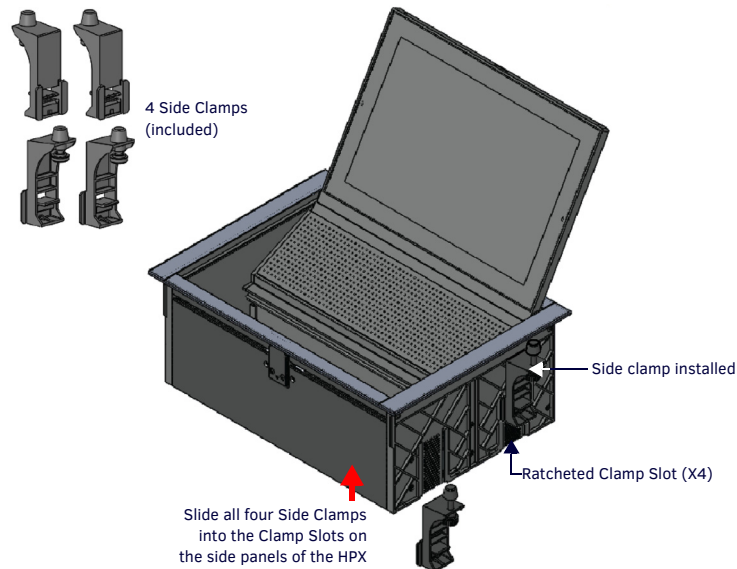

FIG. 5 HPX TOUCH ASSEMBLY AND SIDE CLAMPS
- Use all four included Side Clamps to secure the HPX-MSP-10 to the mounting surface (FIG. 5):
- Press down on the Release Tab on the Side Clamp (see FIG. 5), and slide the clamp into the ratcheted Clamp Slot until it contacts the underside of the mounting surface.